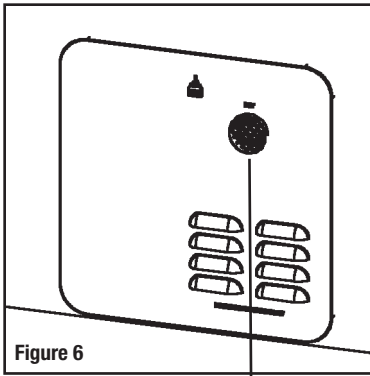

Figure 6
2. The exhaust tube extends beyond the door's face through the clearance hole BUT not beyond the face of the door. Be sure that the exhaust tube is seated properly. See Figure 6